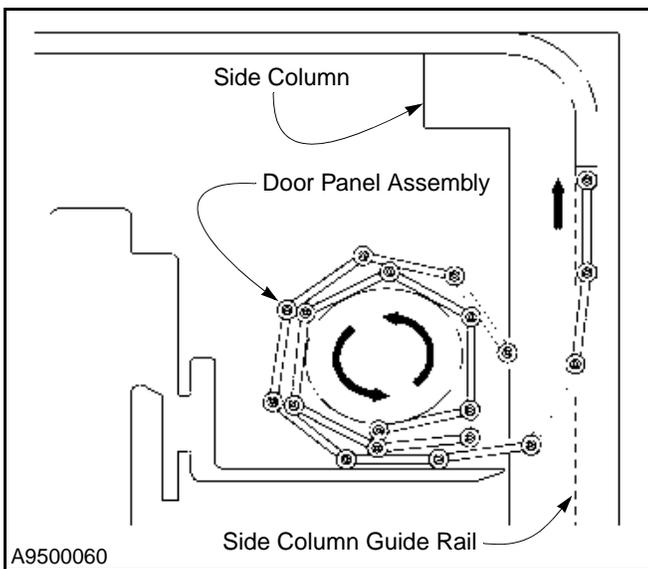

Figure 55
5. Position the pallet and panel on the forks so that the door lip is facing the side column guide rails. (See Figure 55.)